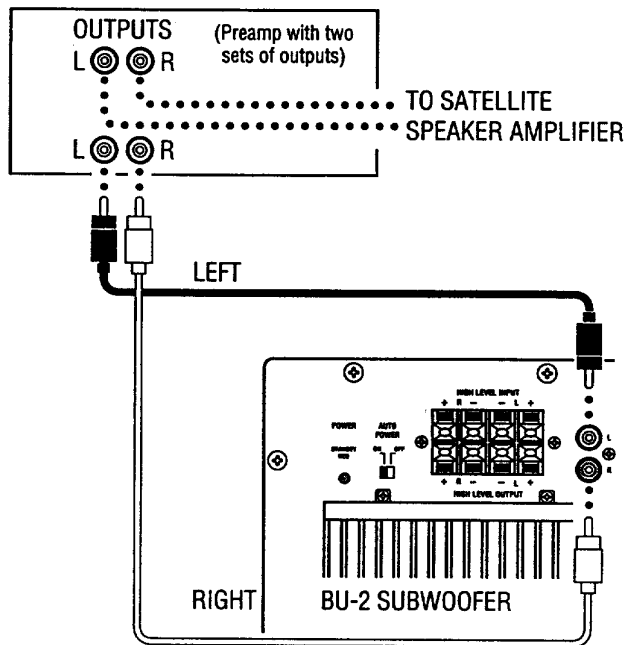
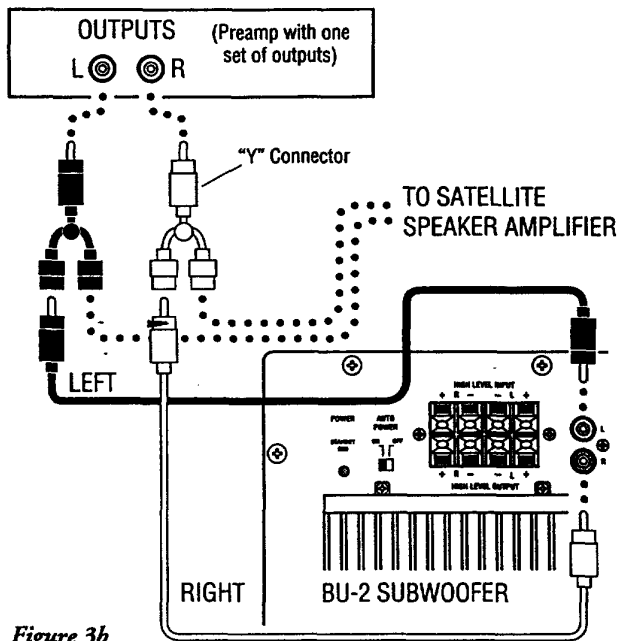

Figure 3a
Figure 3b
The BU-2 may be fed directly with a low-level signal taken from your preamplifier's output by using the second set of output jacks on the rear of your preamplifier (see *Figure 3a*). If your preamplifier has only one set of outputs you may use two (2) "Y" connectors (see *Figure 3b*) to connect your subwoofer. Use standard shielded leads terminated at each end with male RCA connectors. Connect one end of each stereo pair of leads to your preamplifier's left and right outputs and connect the other end to the corresponding left and right LOW LEVEL INPUTS (1) on the subwoofer.